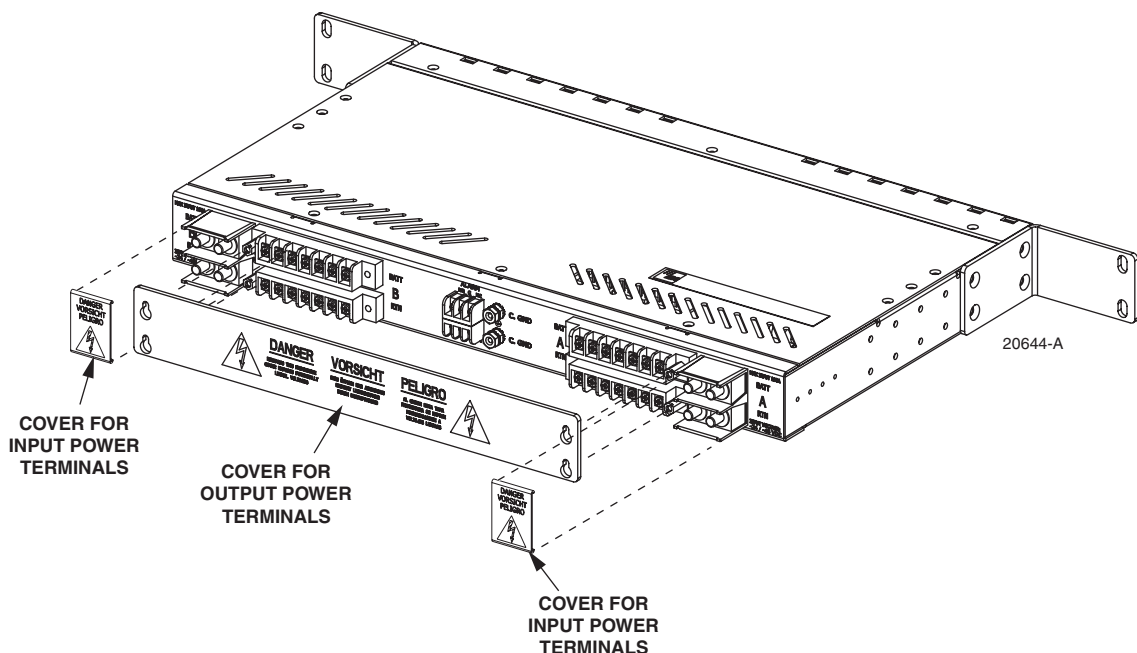

Figure 18. Installing Protective Covers
1. Snap the two small protective covers on the input and output terminals (Figure 18).